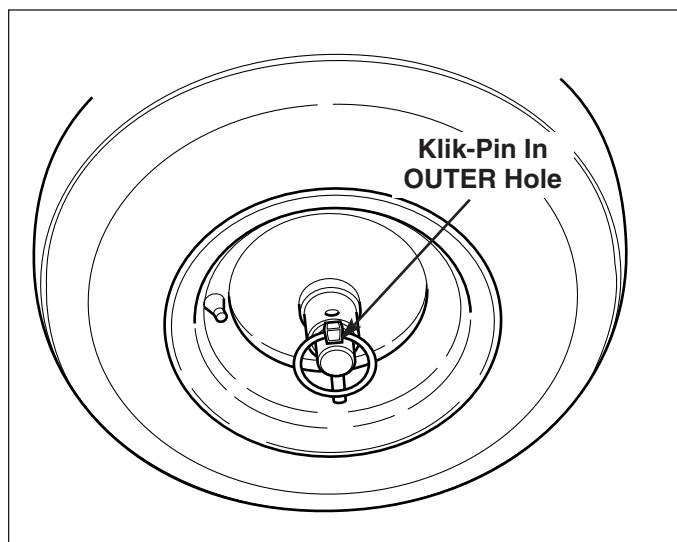

Figure 9. Traction Drive Lock - Disengaged
For easy turning when pushing the snowthrower, you can disengage the traction drive at one or both wheels by using the Traction Lock Pins (See Figures 9 & 10).
2. To **DISENGAGE** the traction drive lock, insert the Traction Lock Pin through the outer hole in the axle. (See Figure 9).